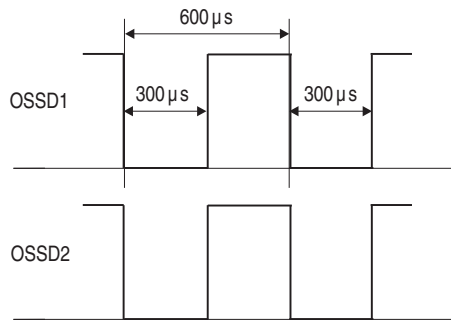
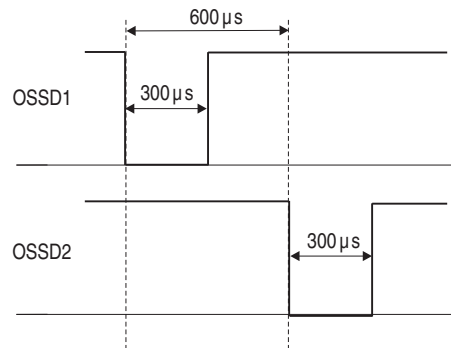

Figure 66: Figure 66: Shut-down test
Figure 67: Voltage Test
After a further half basic response time of the SafeZone safety laser scanner there is a shut-down test ②, 120 ms later a further voltage test ③. Then the SafeZone safety laser scanner performs a shut-down test and a voltage test alternately at an interval of 120 ms. Figure 66, Figure 67 and Figure 68 show the pulse durations for the individual tests.